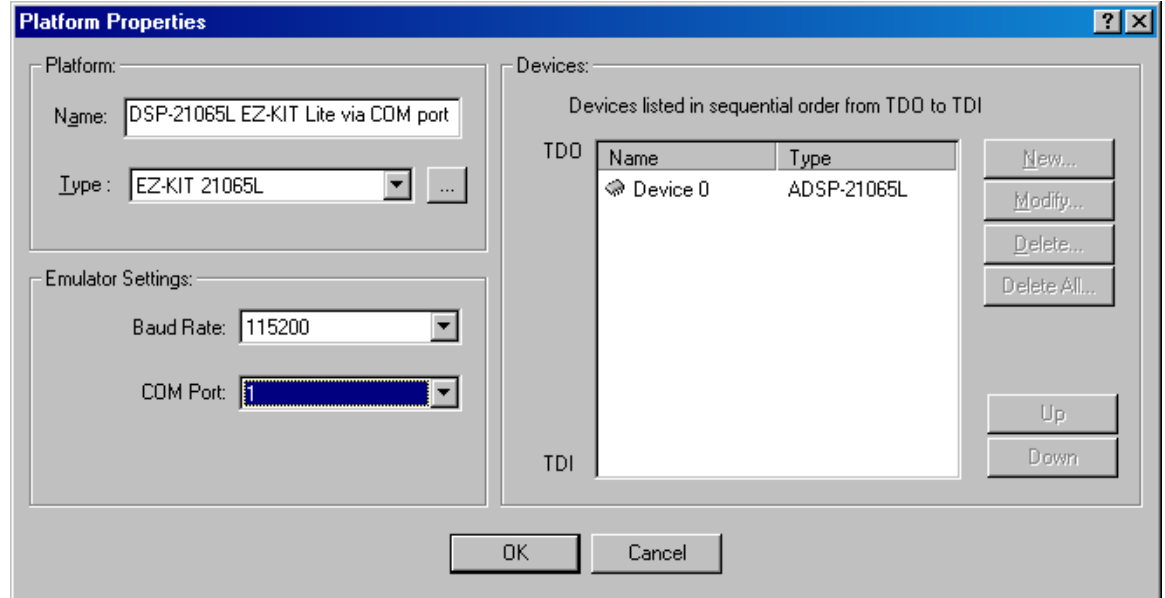

Figure 7-3 Platform Properties
2. In the **Platform Templates** box, high light the **ADSP-21065L EZ-KIT Lite via COM port**, click **Copy** button. Figure 7-3 will appear